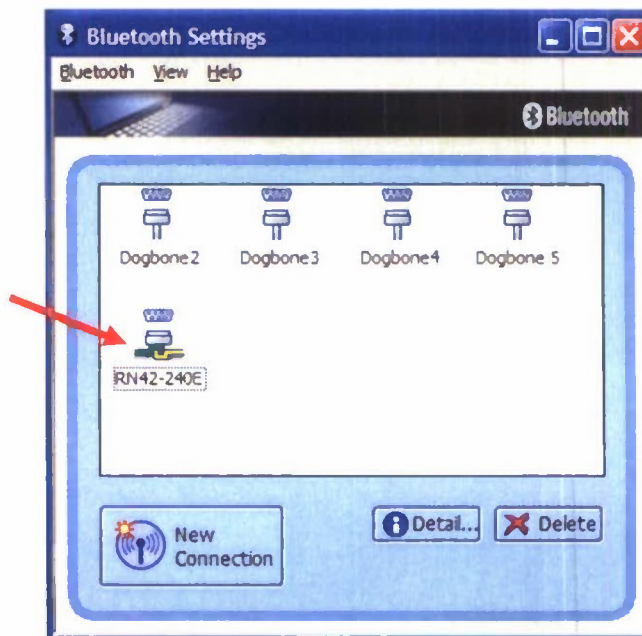

Figure 12. Bluetooth Control Panel Showing That it is Connected to the DHMS Sensor
6. Confirm the Link. To confirm that the link is functioning, double-click on the new icon that represents your Bluetooth connection. After a brief pause, the icon will change to be like Figure 12, which indicates an active Bluetooth connection.
1. Check the Sensor's COM Port. To wirelessly connect to the DHMS sensor from the PC, you will need to know the COM port assigned to the sensor's Bluetooth connection. To find the correct COM port, go to the **Toshiba Bluetooth control panel** (see Figure 12) and right-click on the icon corresponding to the sensor that you are using. In the pop-up menu, select **Details**. The COM port is displayed in the middle of the resulting window.